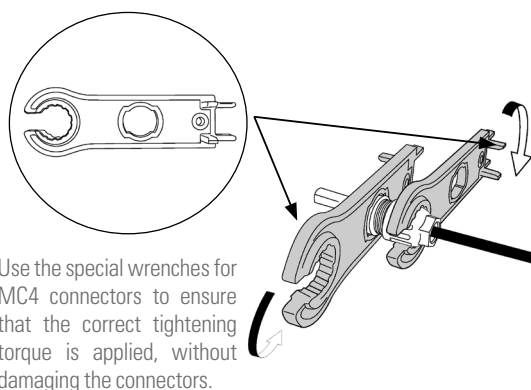

Fig. 40. Using an open-end wrench.
- f. Use an open-end wrench to screw the nut all the way in and make sure that the terminal is sealed well, as shown in Fig. 40: